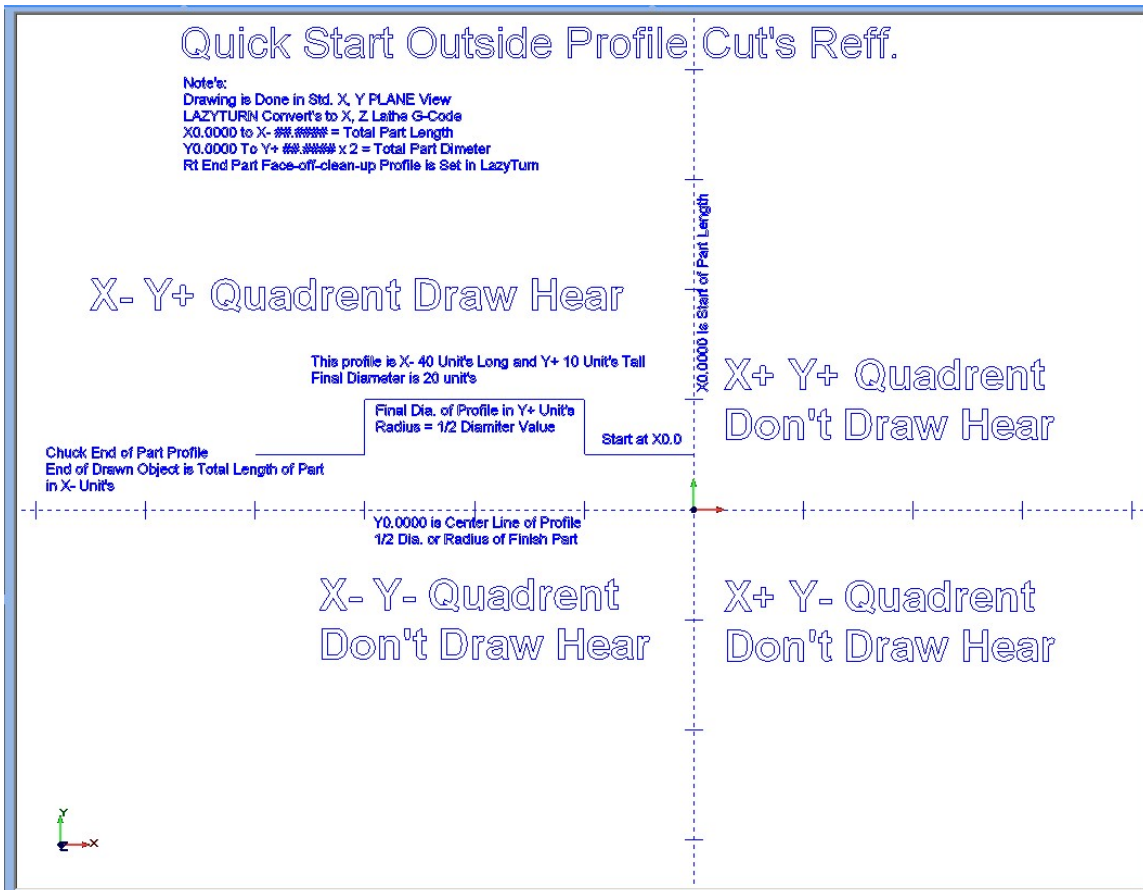

FIGURE 3.5.1
- 3.9 DO NOT ...DO NOT draw, extend any line, any part of the profile, leave any line / dot / pixel / or what ever below the $Y=0$ which represents the center line. See FIGURE 3.5.1